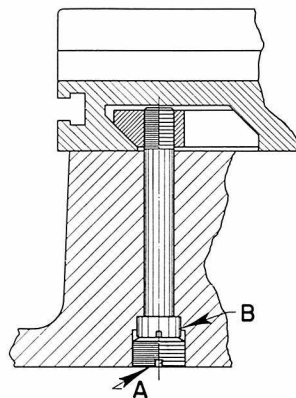

Figure 85B
1. Remove the four set screws "A" from the bottom of the housing. (Figure 85B).